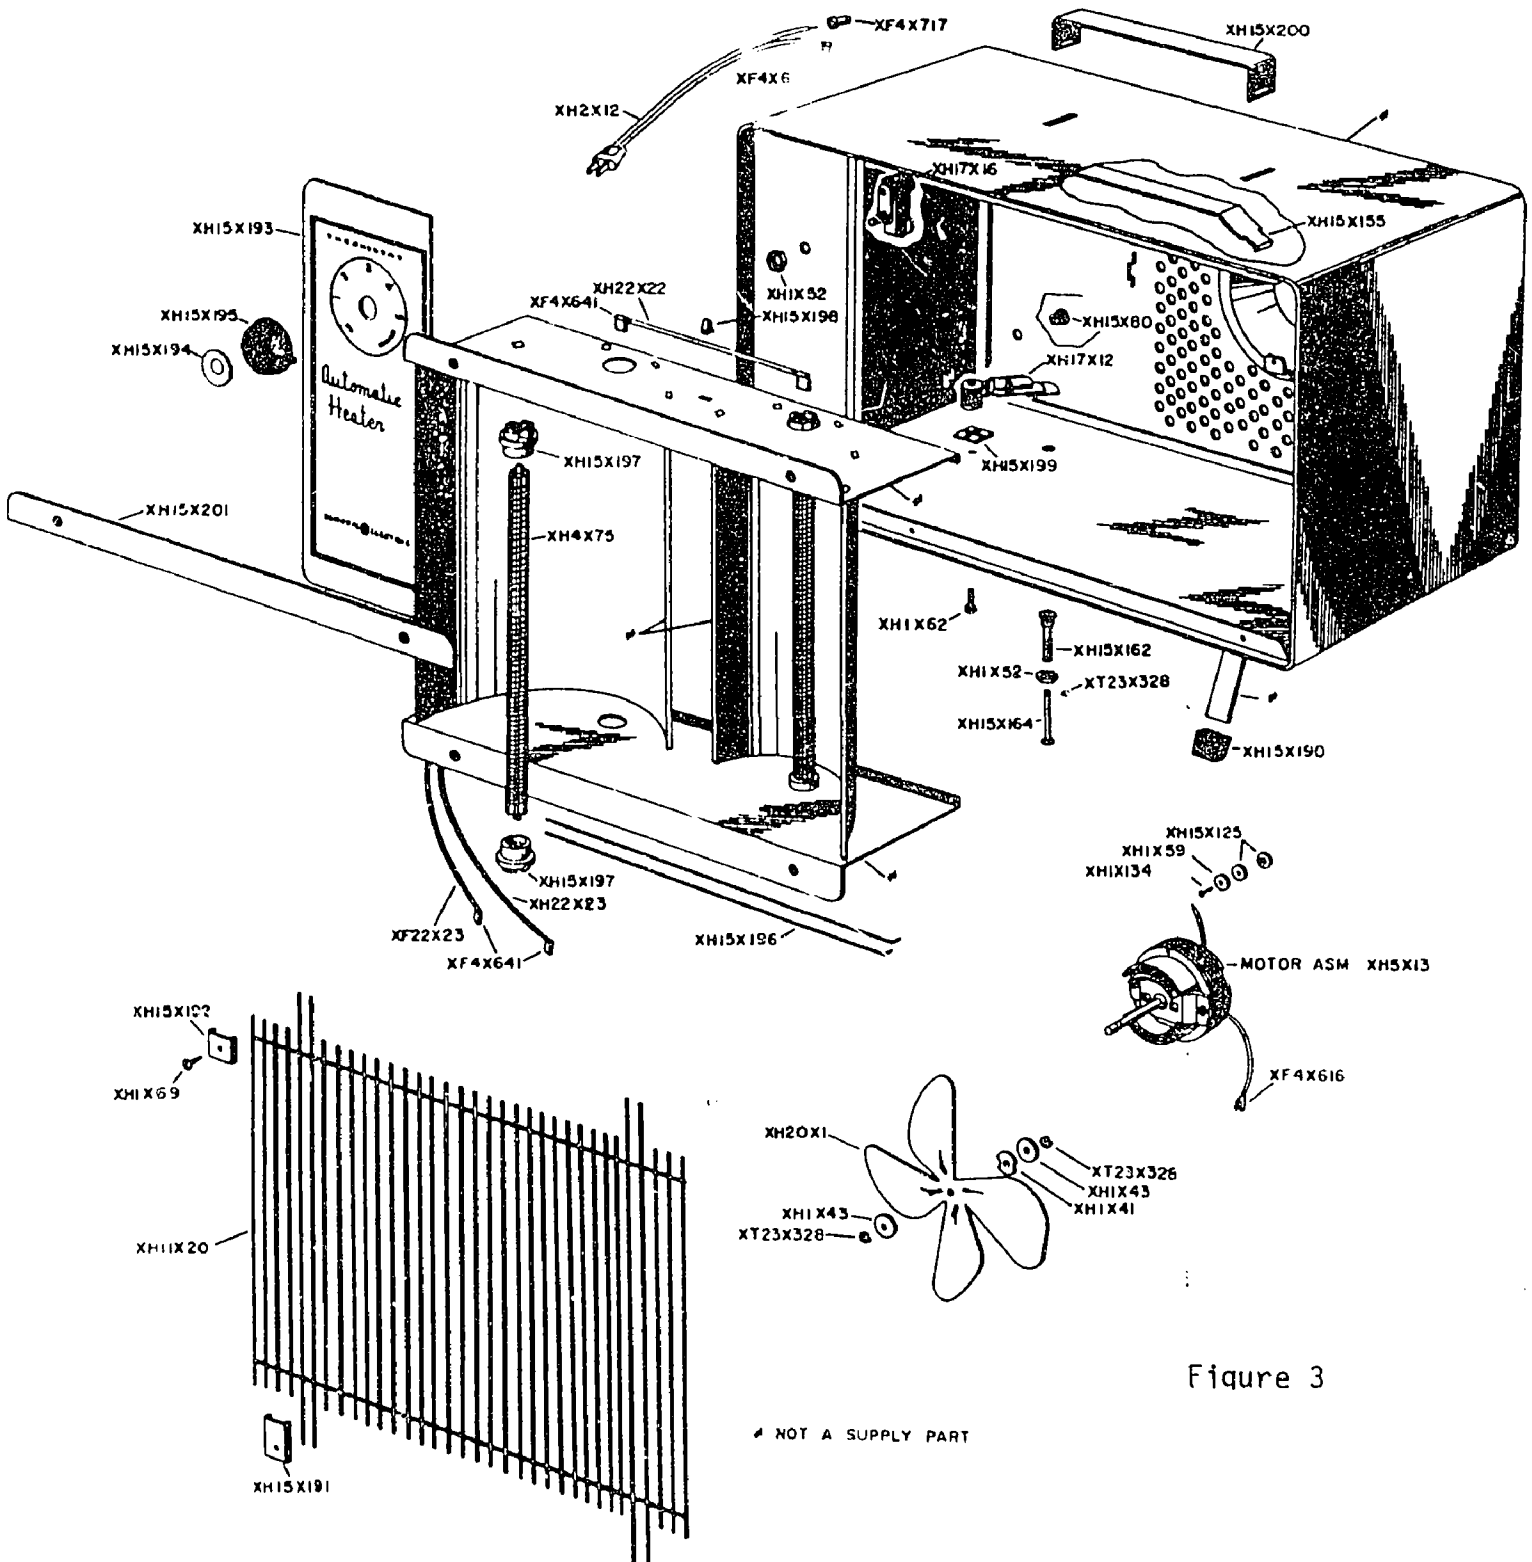

Figure 3
6. Which part number in Fig. 3 shows the location of the cordset on an electric space heater?
7. Which part number in Fig. 3 (electric space heater) indicates the location of the motor assembly?
8. Which part number in Fig. 3 (electric space heater) indicates the location of switch mounting spacer?
9. Which part number in Fig. 3 (electric space heater) indicates the location of the strain relief?
10. Which part number in Fig. 3 (electric space heater) indicates the location of the guide plunger?